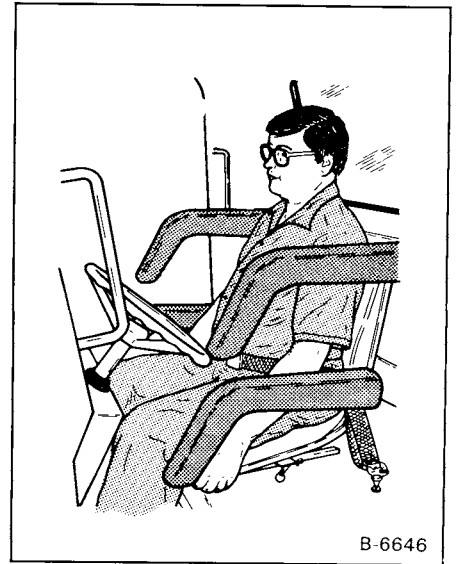

Fig. 5 Seat Bar Lowered
3. All controls must be in the neutral position with the seat bar lowered (Fig. 5) and the brake engaged before you start the engine.